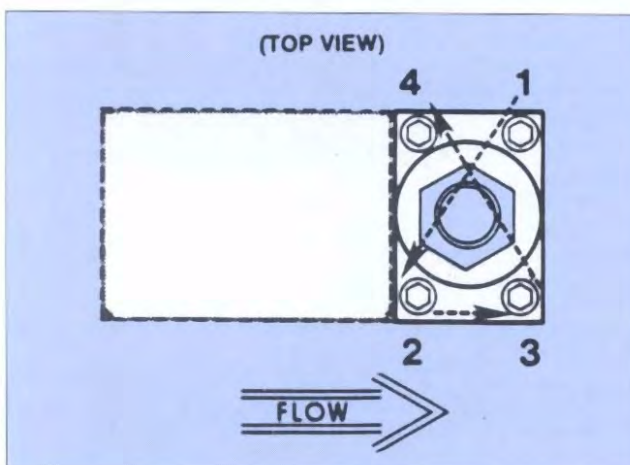

Figure 4-1 Torque Sequence for the Pilot Valve Retainer Plate
3. Press the lubricated sensor O-rings (18) into the flow controller body (1). Install the sensor assembly and secure with two screws (23) and tighten.
4. Install the orifice (30) and its O-ring, using a 3/8 nut driver. Insure that the orifice is fully seated but do not overtighten.
6. Place the spacers and springs on the valve seat (12) in the same order as noted in Step 8 of the disassembly. Screw the valve seat (12) in the same order as noted in step 8 of the disassembly. Screw the valve seat (12) into the plunger (4). Tighten the assembly until there is no looseness but do not overtighten.
8. Install the pilot valve stem assembly (3), secure with the valve retaining plate (7) and four hex socket screws (22). When installing the screws they should first make light contact with the plate which should be checked to insure that it makes full contact around the stem assembly. Torque the screws securing the valve retaining plate in a diagonal pattern (refer to figure 4-1) to 1.9 Nm.
9. Install the coil assembly (4) over the valve stem assembly (3) and secure with nut (6).
10. Install the PC board (8) and secure with the bracket (10) and two screws. Plug the connector from the sensor assembly onto the PC board. The flow arrow on the connector should be pointing toward the valve assembly.
11. Install the electronics cover (2) on the controller, secure with three screws (21) and reinstall the upper jack post of the D-connector. Plug the sensor from the valve coil into the PC board through the hole in the electronics cover.